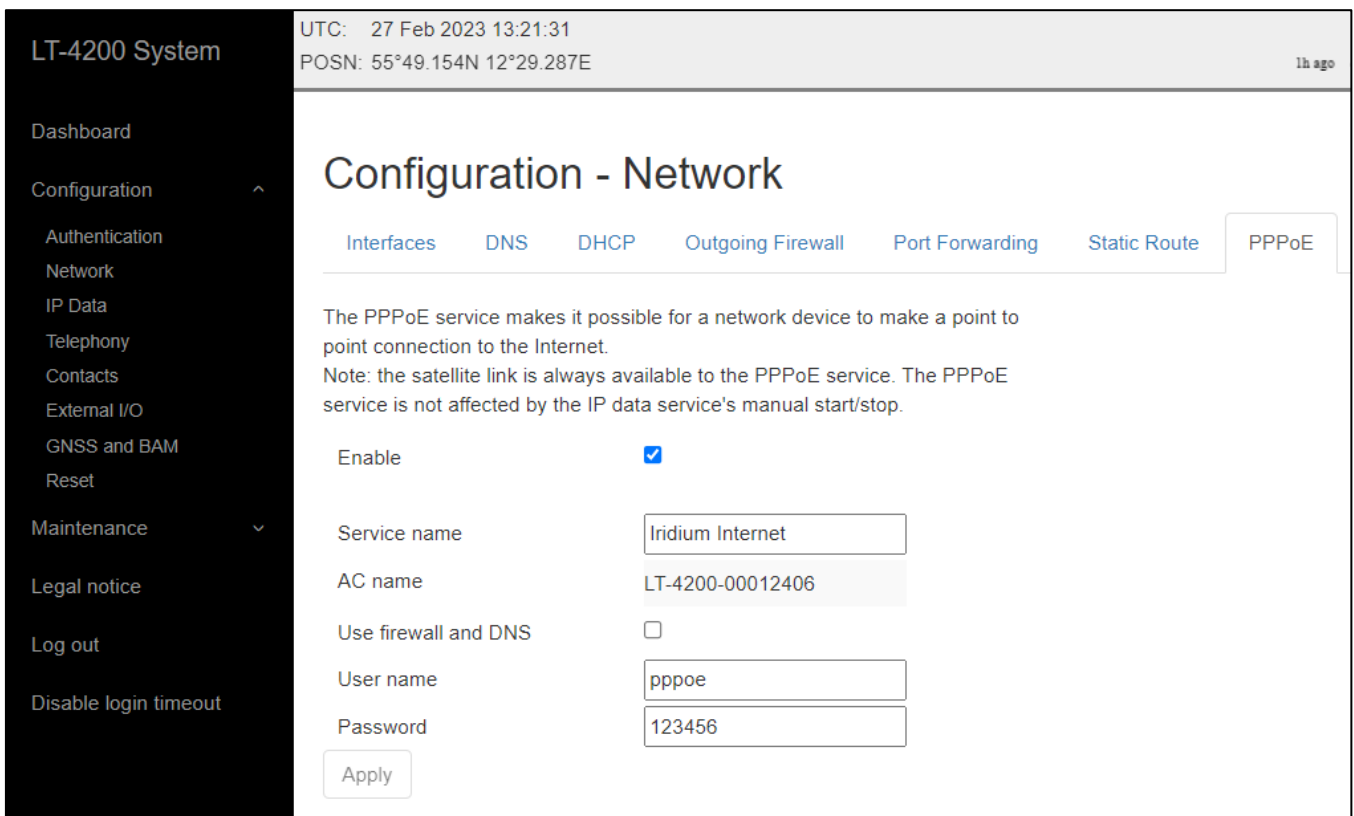

Figure 109: Web server – Network (PPPoE)
The PPPoE connection must be configured by setting up the Service name, Access Concentrator (AC) name, User name and Password. See Figure 109 for configuration.